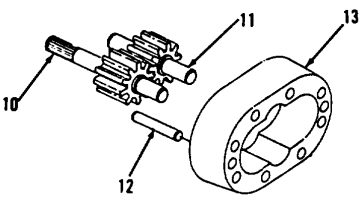

Figure 10-16.
- 82. Install two dowels (12), idler gear (11) and drive gear (10) in body (13, Figure 10-16).